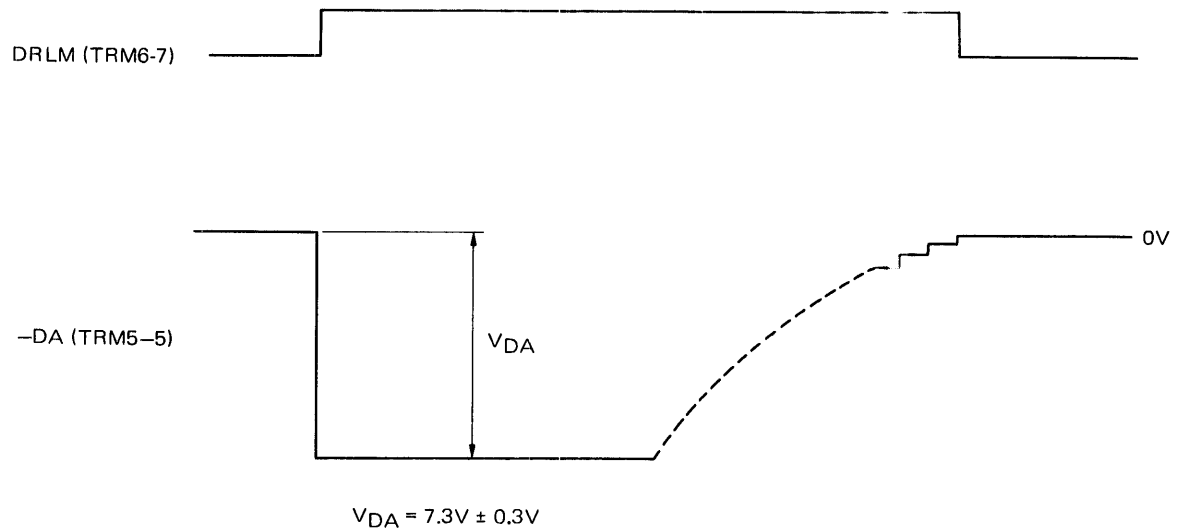

Figure 6-6-13 DAC Output Adjustment
5. Adjust a potentiometer RV11 so that V_{DA} is $7.3V \pm 0.3V$ as shown in Figure 6-6-13.